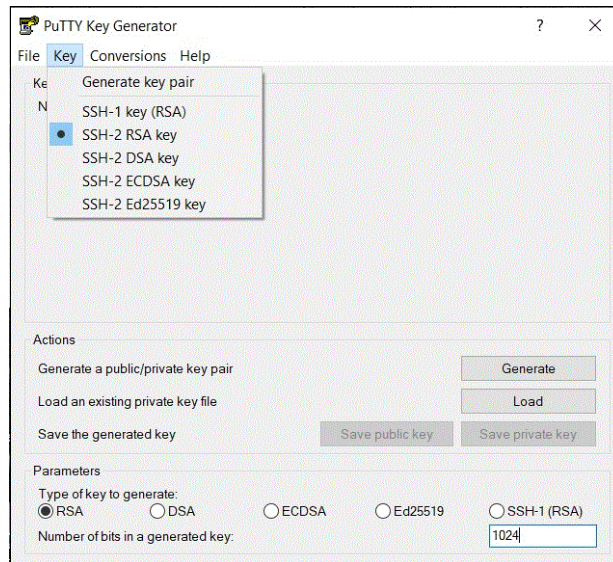

Figure C-1 PuTTY key generator
1. Start the PuTTY key generator to generate the public and private key pair, as shown in Figure C-1.